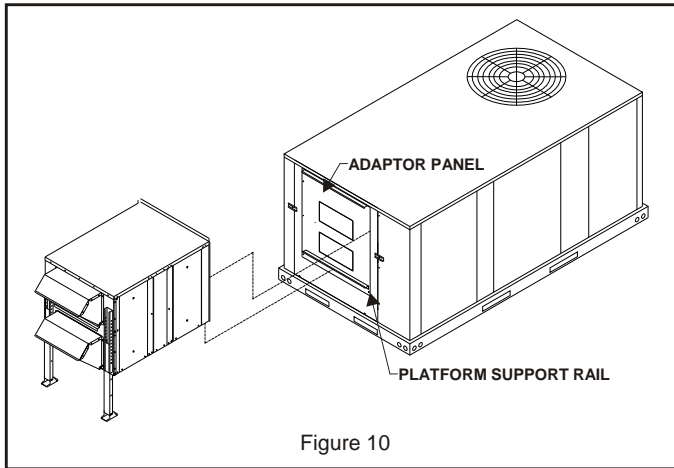

Figure 10
- Lower ERS onto ERS support rail catching the front edge of ERS bottom onto the 1/2" flange. Lift rear of ERS to rotate face against rooftop unit and secure with the existing rooftop unit screws and the providing 10-16 x 1/2" self-tapping screws. Tuck turned up flange on ERS top under top flange of rooftop unit. Secure into place. **See Figure 10.**